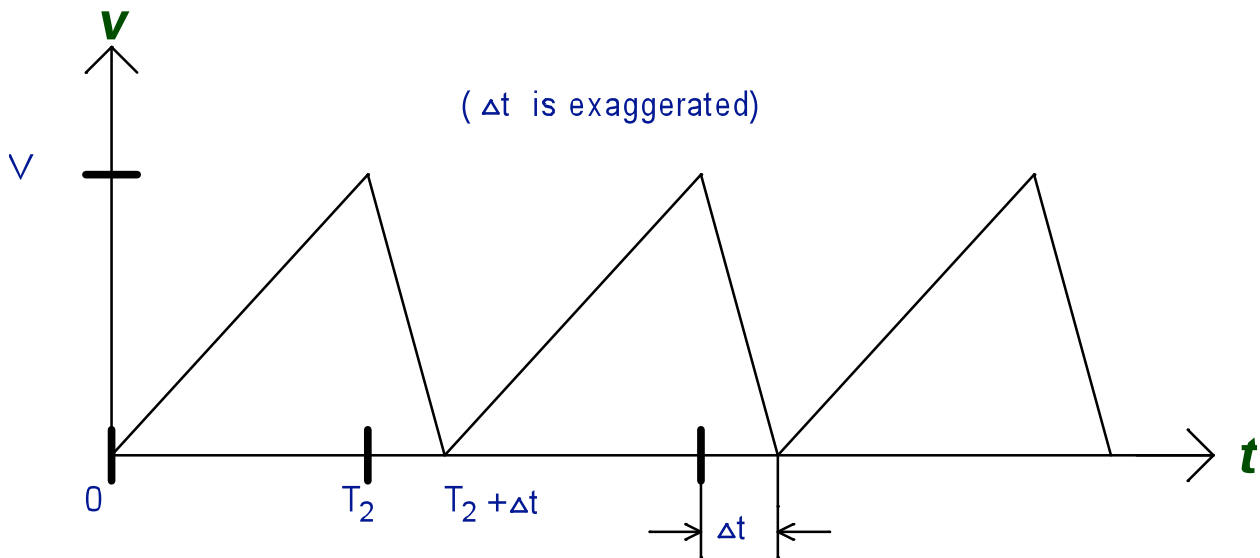

Figure 5. Automatic Sweep Voltage
- N. Figure 5 shows the repetitive voltage that is applied to the horizontal plates to sweep the electron beam. For obvious reasons, it is commonly called a “sawtooth voltage.” When the sweep rate is 0.5 s/div, then T_2 is 5 seconds. During the interval Δt the electron beam is turned off or “blanked,” so that confusing traces will not occur.